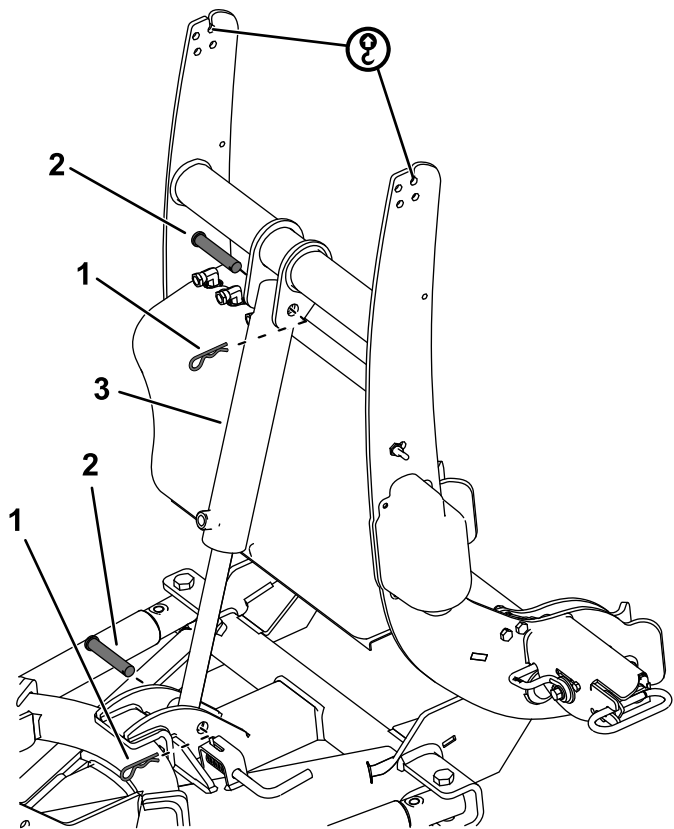

Figure 9
6. Secure the rod end of the lift cylinder to the push-frame assembly using a clevis pin and hairpin cotter (Figure 9).
7. Secure the free end of the lift cylinder to the coupler tower using a clevis pin and hairpin cotter (Figure 9).